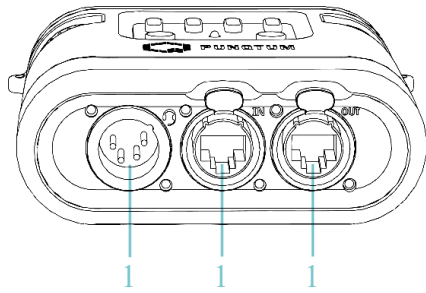

Figure 2
Channel volume control can be set by the rotary encoder knobs (11 on Figure 2) on the side of the Beltpack. Moving the rotary knob clockwise will increase the volume, counter-clockwise operation will decrease the volume.
An active TALK function is indicated in the display per Channel. Use the TALK Buttons (item 2 on Figure 2) to switch on and off the TALK status of each Channel.